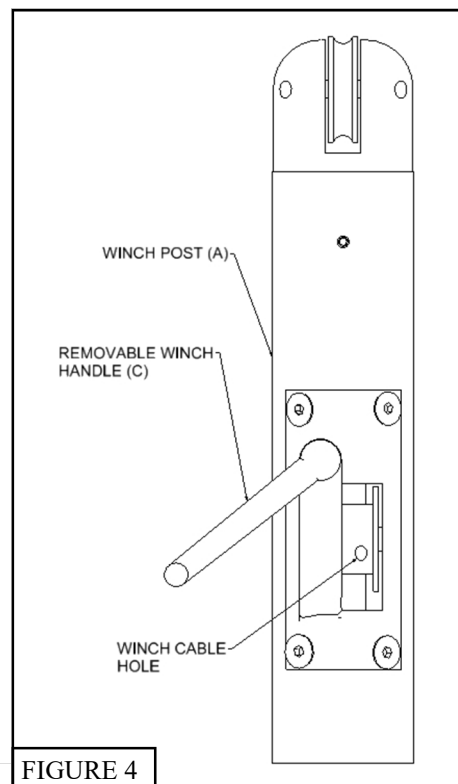

FIGURE 4
7. Cut off loop and remove 12" of nylon cable coating from the top net cable, insert cable into the winch cable hole on the *Winch Post* (A). Use the *Removable Winch Handle* (C) to crank cable until you achieve 34" at the center of *PK10NXL Pickleball Net* (D). See Figure 4.